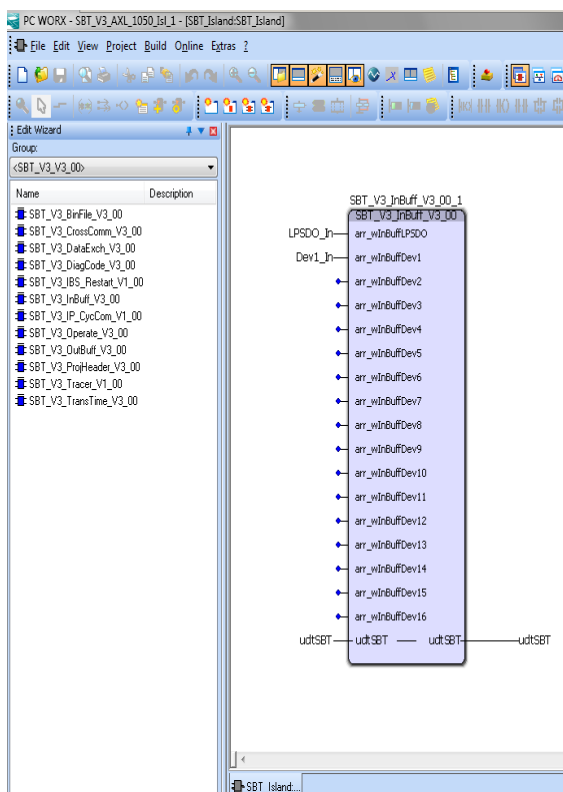

Figure 3-32 “SBT_V3_InBuff_V3_00” function block
- Connect the function block as shown in Figure 3-32.